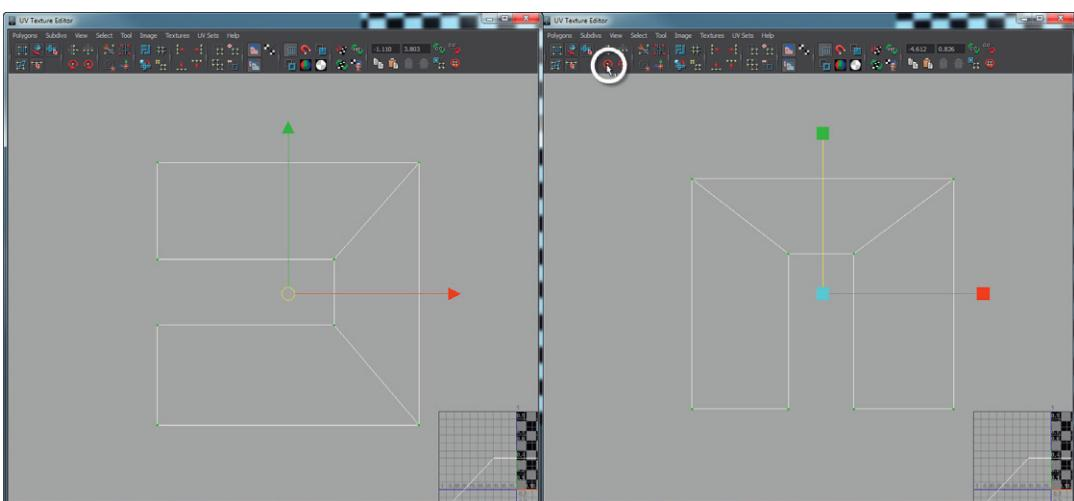

FIG 5.19 Rotating a UV shell for ease of painting later.
Step 18: If needed, rotate the UV shell for the wall with the door. You may not need to do this, but in my version, the automatic mapping yielded a UV mapping of the wall with the door as a sideways UV set. To fix this, simply select the shell and use the Rotate Selected UVs Counter Clockwise (highlighted in Fig. 5.19) to rotate the wall so it stands straight.